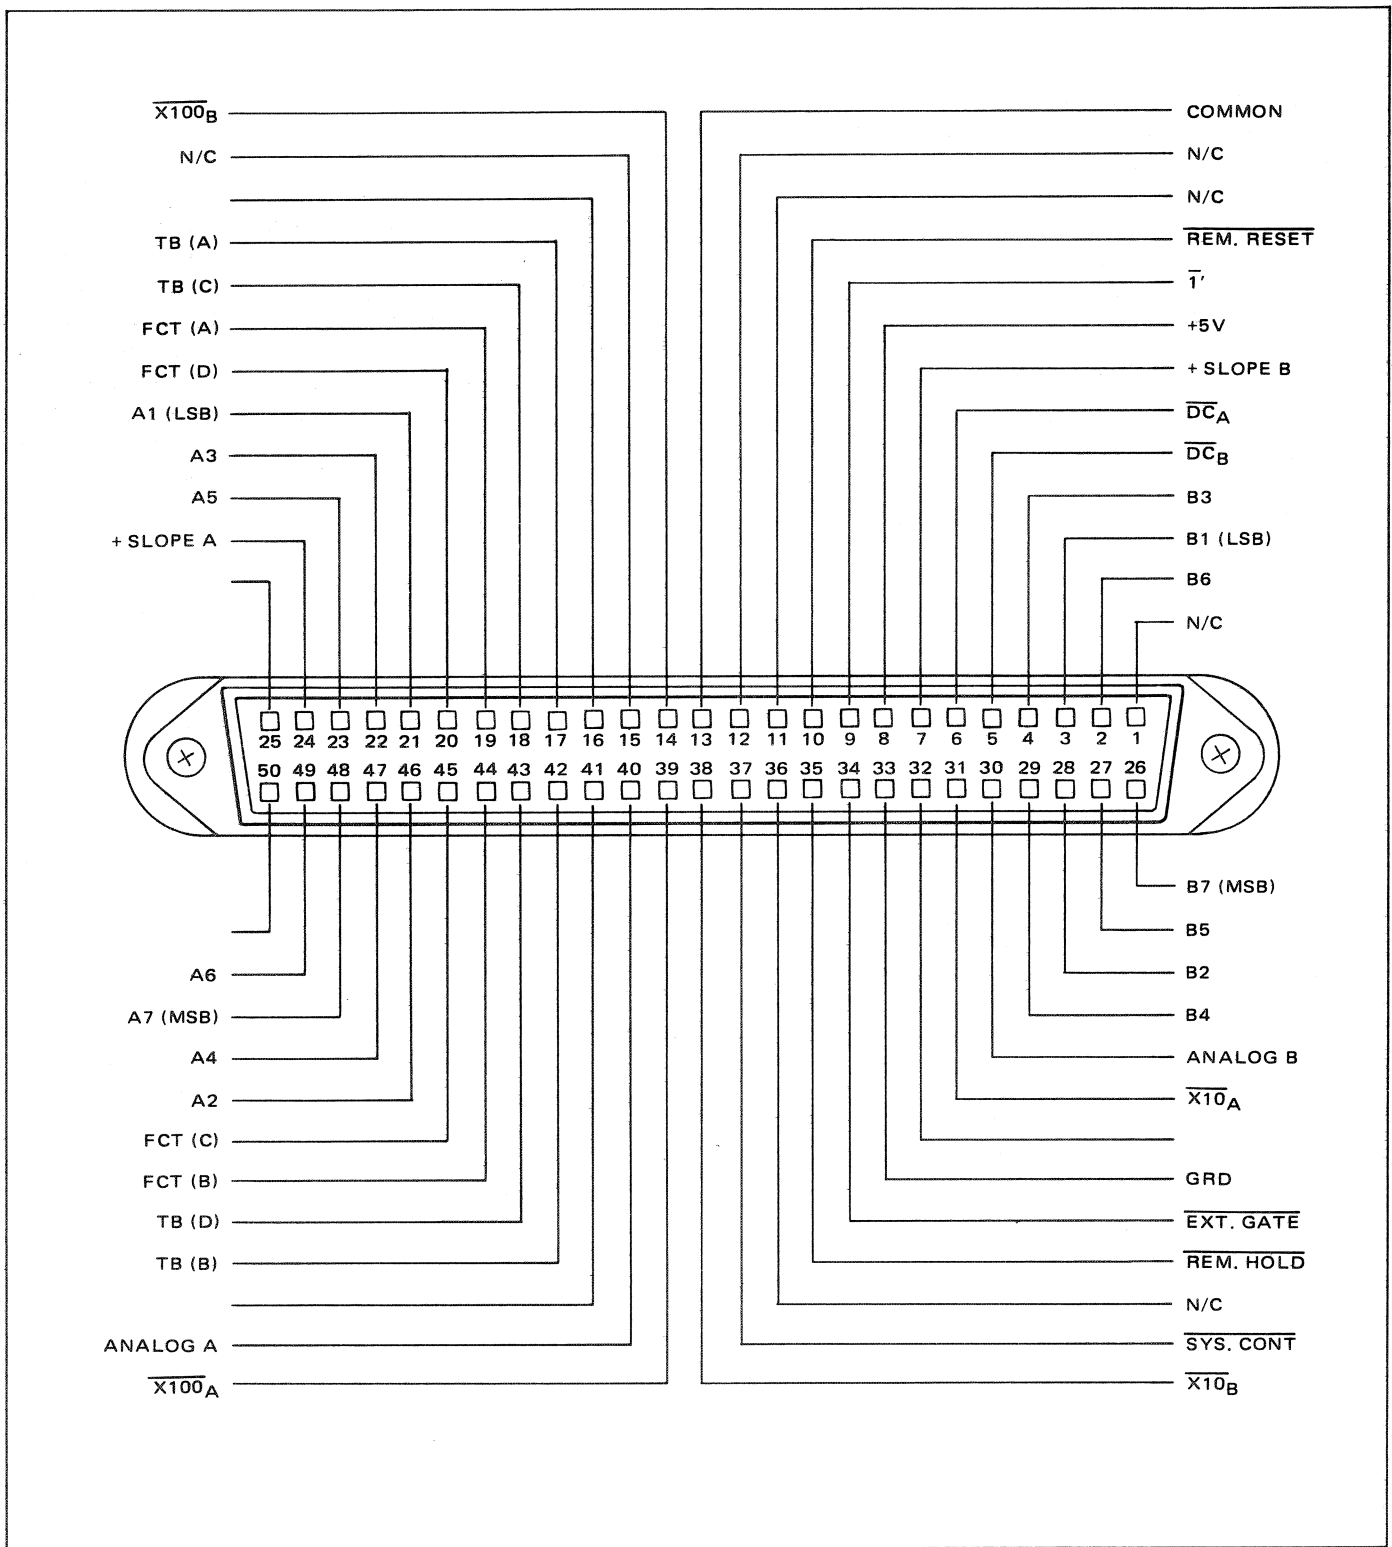

Figure 2.5 - Pin Location of J113 Programming Connector
2.39 Programming data is applied through a 50-pin blue ribbon connector (J113), located on the rear panel. All command lines* are initially biased at a logic "1" level, control settings are made by 'pulling' the appropriate control lines to GROUND (J113, pin 33). Pin locations are indicated in figure 2.5 and table 2.3.